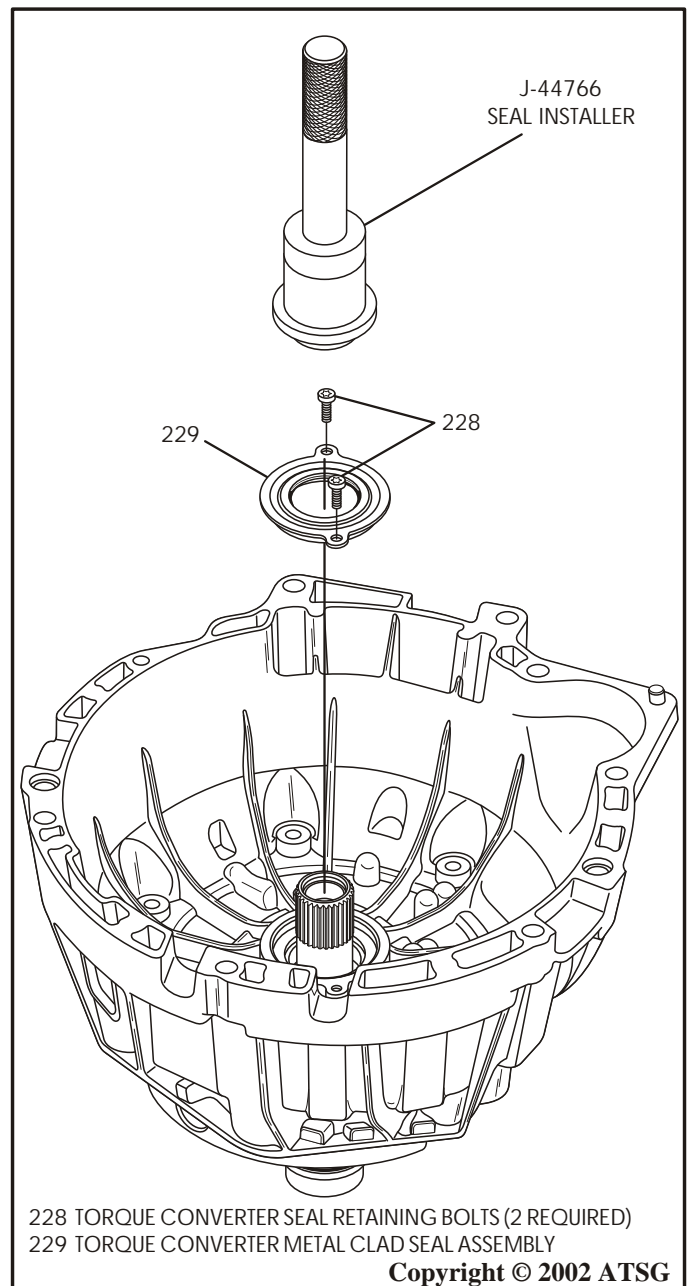

Figure 71
36. Install new converter seal onto the installation tool J-44766, align the converter seal with the bolt holes, and then install the converter seal in the housing (See Figure 71).